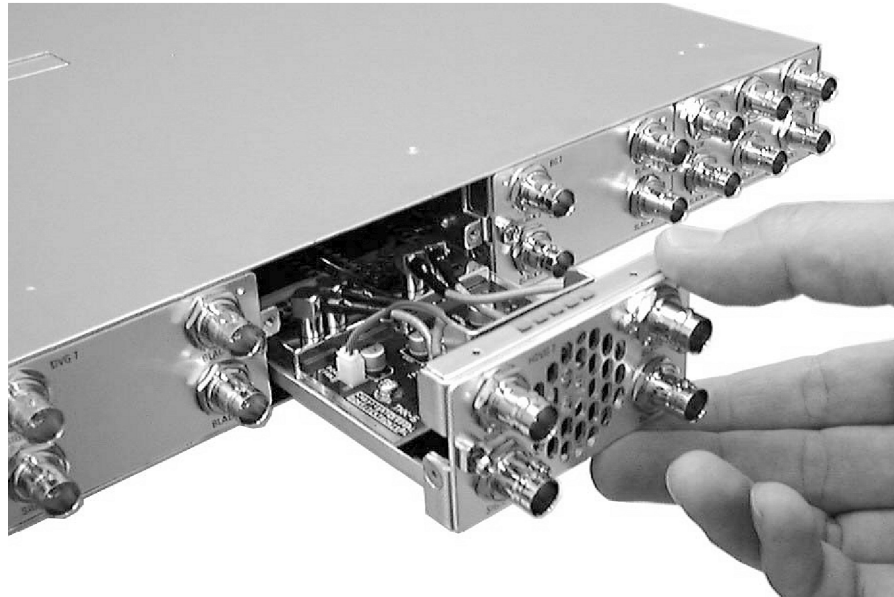

Figure 7: Installing a module
4. Insert the module into the slot, paying attention to the module orientation. (See Figure 7.) Push the module into the slot until the connector board of the module is firmly engaged with the Main board of the mainframe.